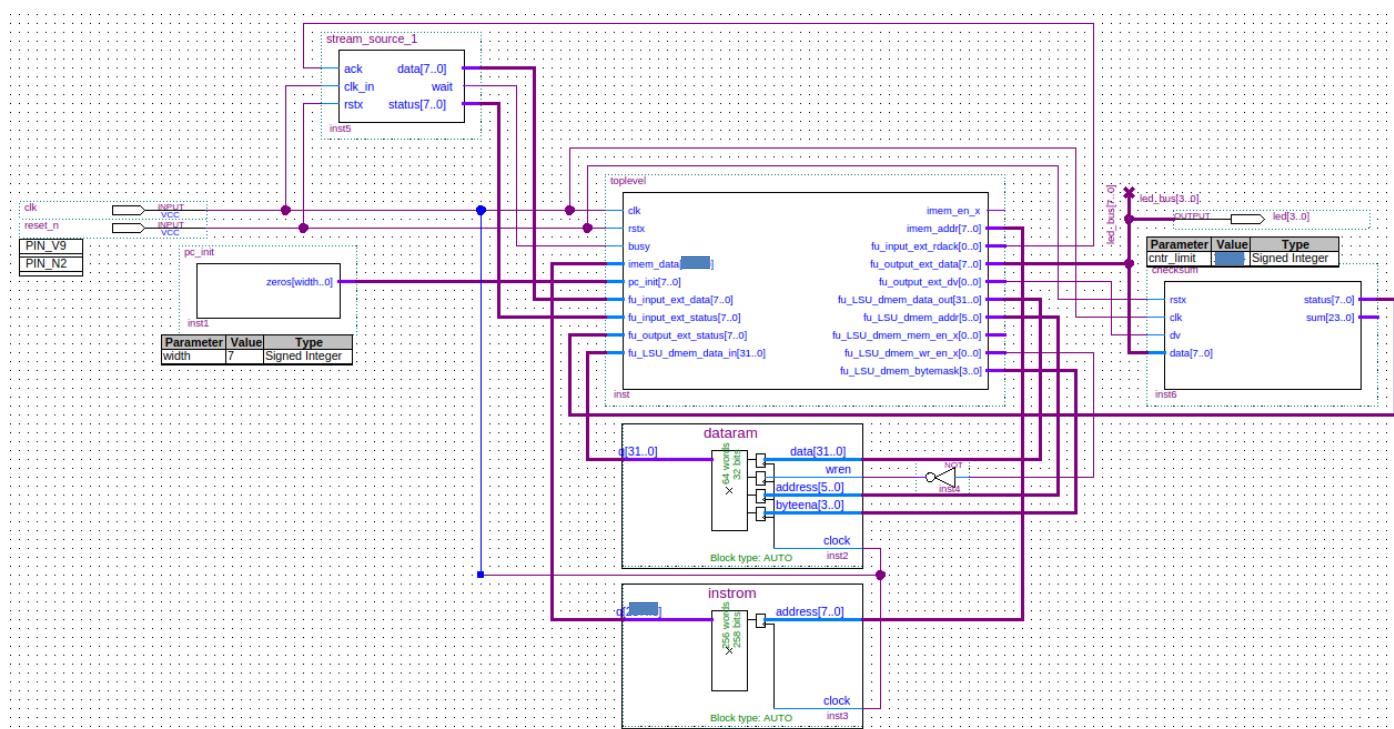

Figure 3.
33. Place and connect the component as you can see in Figure 3. Set the width parameter to 7.
15. Place the memory component below the processor, as in Figure 3.
2. Make all connections as in Figure 3.